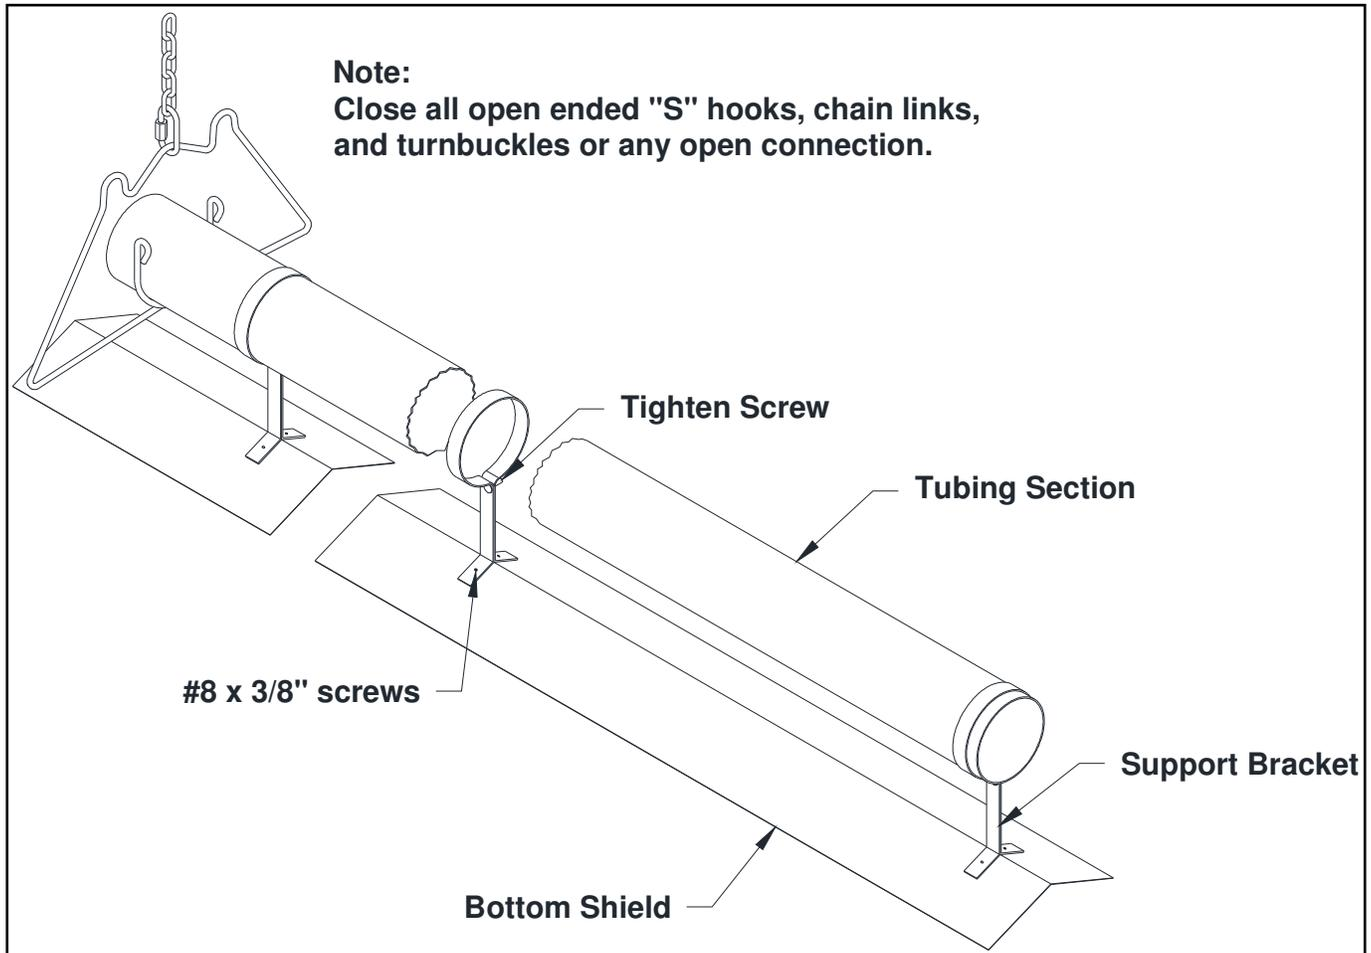

Figure 18. Bottom Shield Installation
- Bottom shields need not overlap. Each 5' section is held with two support brackets (see Figure 18).